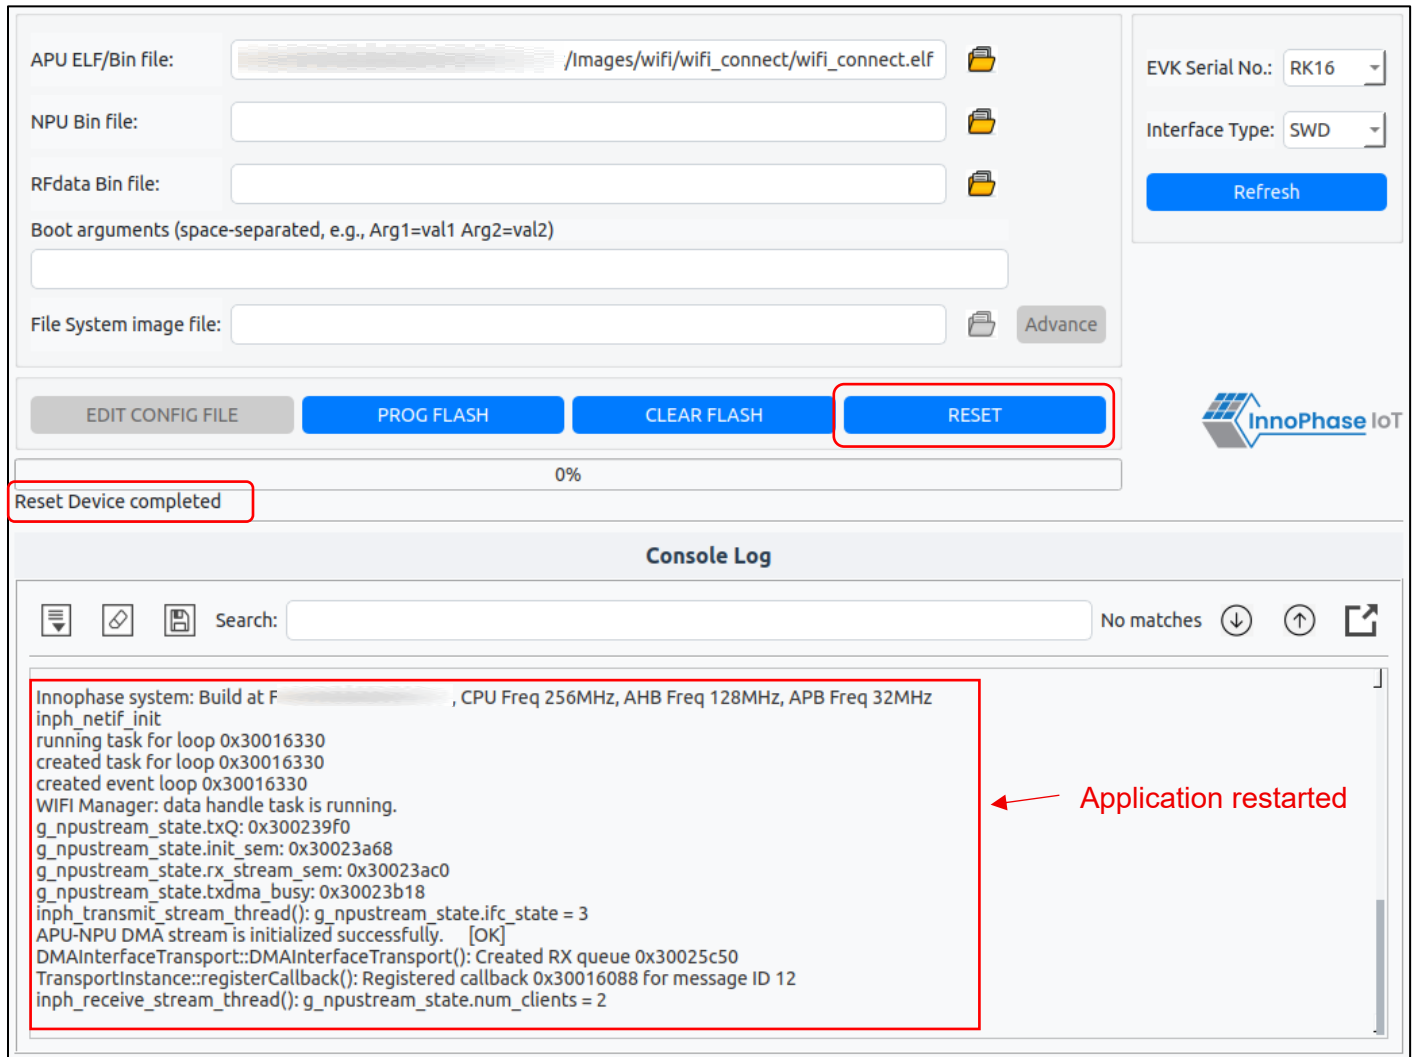

Figure 18: CLEAR FLASH - Console Output
- Console output will be shown on “Console Log” window, as shown in Figure 18.